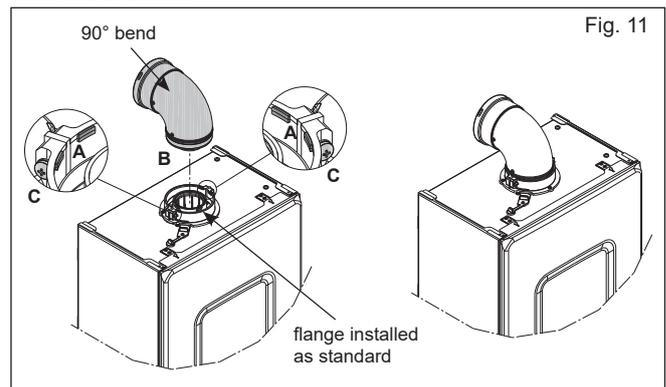
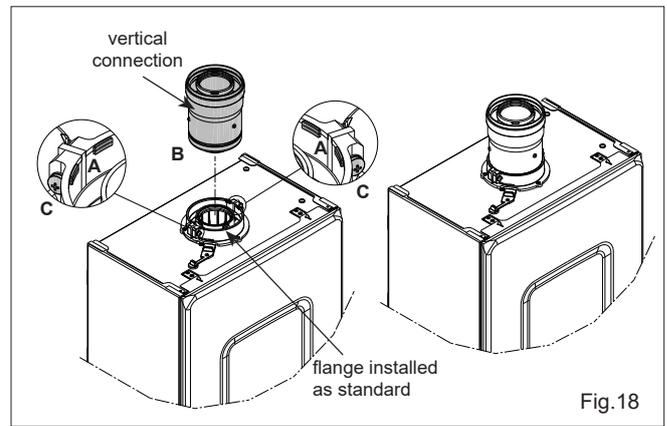

Fig. 11
Fig. 18
NOTE: The appliance incorporates a 'click-fit' flue connection (see fig. 11). Ensure that both screws 'C' (fig. 11) on the 'click-fit' have been slackened off. Ensure that the bend is correctly aligned with the connector and insert the flue bend into the connector until it clicks into position (this is when the tabs at points 'A' are located in the groove of the flue bend - see fig. 11). Both screws (C) should now be tightened.
NOTE: The appliance incorporates a 'click-fit' flue connection (see fig. 11). Ensure that both screws 'C' (fig. 11) on the 'click-fit' have been slackened off. Ensure that the bend is correctly aligned with the connector and insert the flue bend into the connector until it clicks into position (this is when the tabs at points 'A' are located in the groove of the flue bend - see fig. 11). Both screws (C) should now be tightened. The additional bends & extensions have push-fit connections, care should be taken to ensure that the correct seal is made when assembling the flue system. Connect the required number of flue extensions or bends (up to the maximum equivalent flue length) to the flue
NOTE: The appliance incorporates a 'click-fit' flue connection (see fig. 18). Ensure that both screws 'C' (fig. 11) on the 'click-fit' have been slackened off. Ensure that the connector is correctly aligned with the 'click-fit' and insert it into the 'click-fit' until it clicks into position (this is when the tabs at points 'A' are located in the groove of the vertical flue connector - see fig. 18). Both screws (C) should now be tightened.